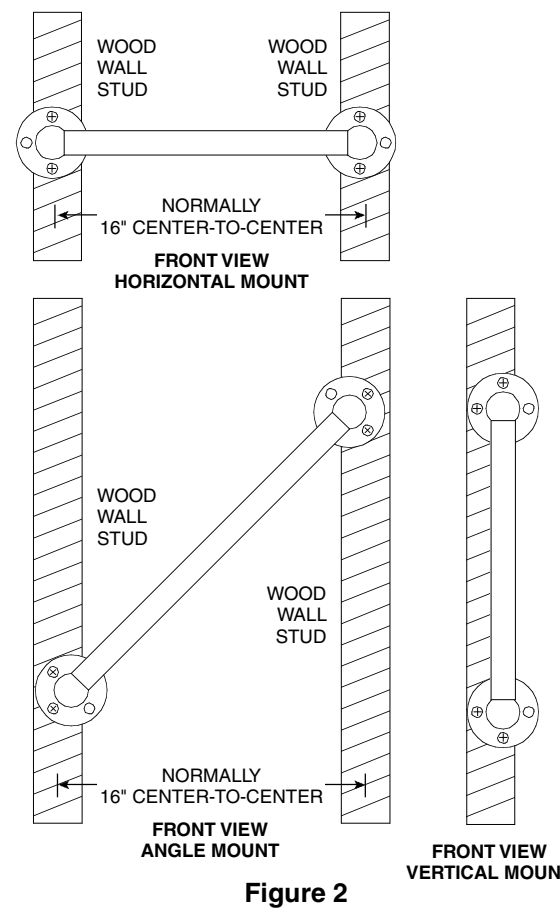

Figure 2
**For proper installation, both ends of Residential Assist Bar MUST be positioned over a wall stud. For solid support, at least two (2) of the three (3) screws on the end of the Residential Assist Bar MUST go through the wallboard or tile and be tightly secured into the wall stud. Given standard stud sizes, only two (2) of the three (3) screws may screw into the wall stud.**
**Residential Assist Bar may be installed vertically, horizontally or at an angle, so long as at least two (2) of the three (3) mounting screws on both ends of the Residential Assist Bar are secured into a wall stud (see Figure 2). Locate the wall studs behind the wall before beginning installation (a stud finder can be obtained from a hardware store).**